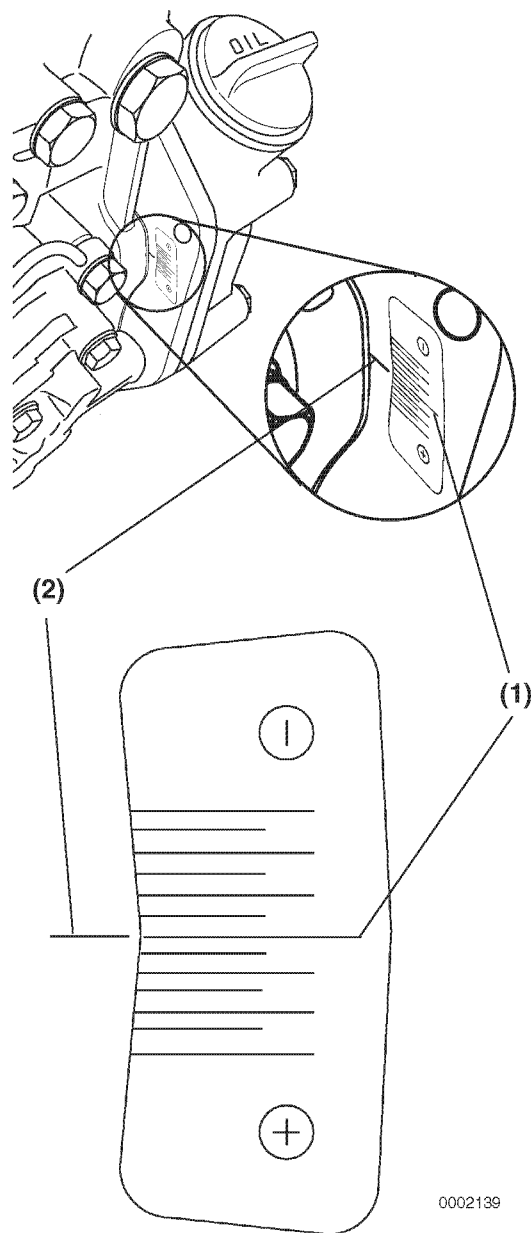

Figure 7-25
- Reinstall the timing grid sticker, provided with the new fuel injection pump, onto the back of the gear case / front plate (Figure 7-25). Align the “standard mark” (Figure 7-25, (1)) with the reference mark (Figure 7-25, (2)) made on the gear case during disassembly.